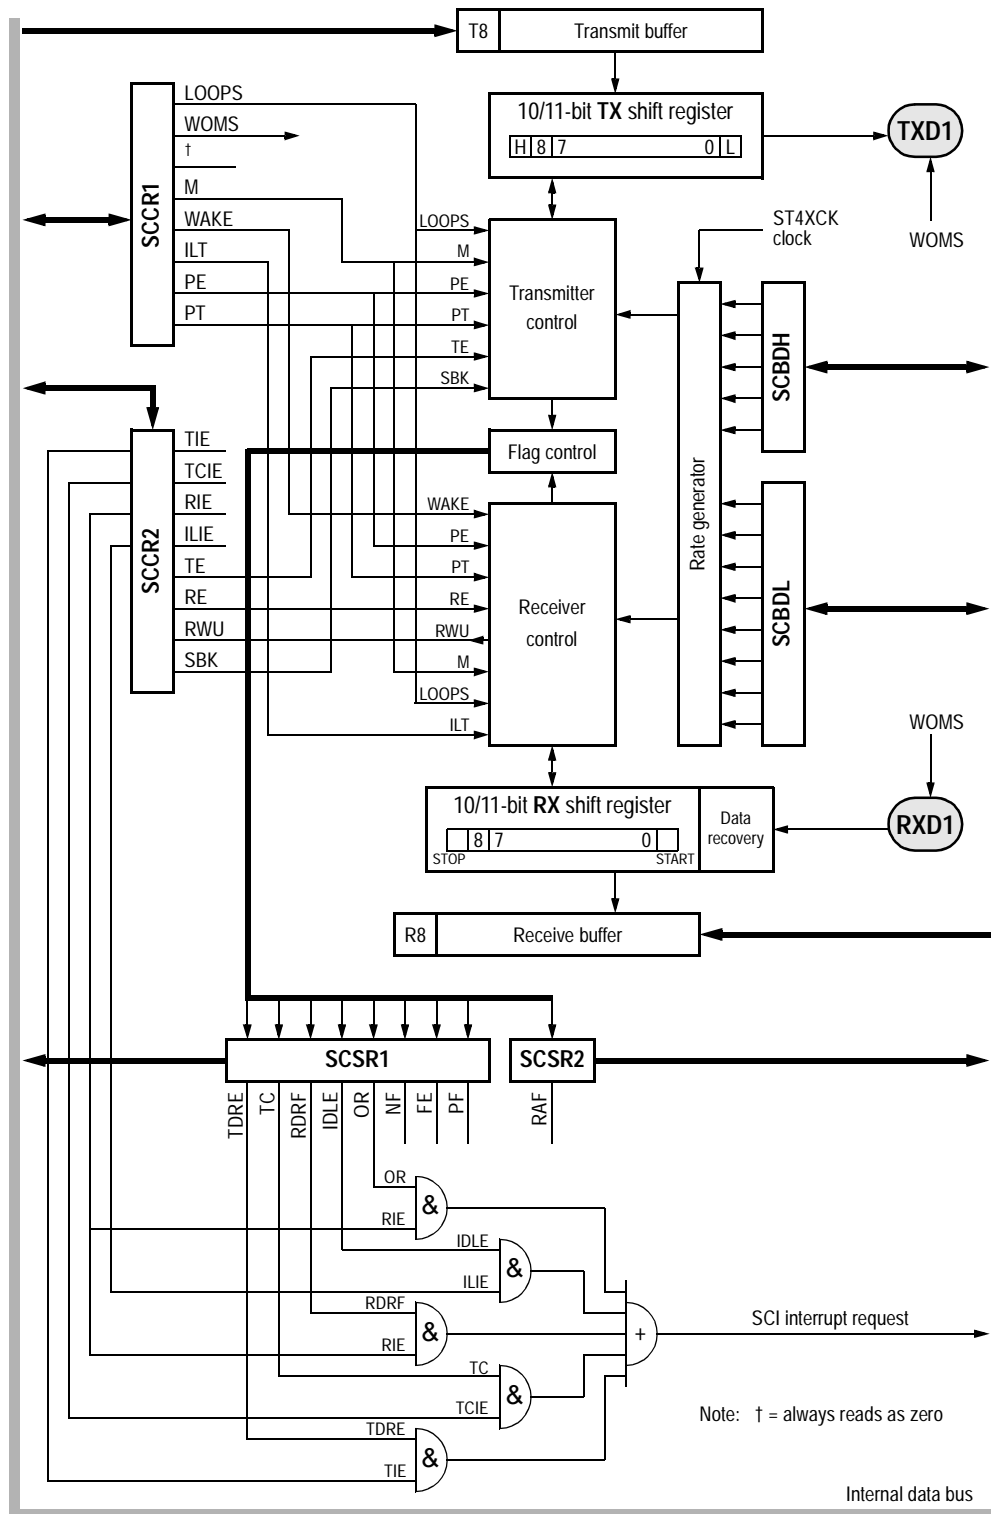

Figure 5-2. SCI1 block diagram
The SCI transmitter includes a parallel data register (SCDRH/SCDRL) and a serial shift register. The contents of the shift register can only be written through the serial data registers. This double buffered operation allows a character to be shifted out serially while another character is waiting in the serial data registers to be transferred into the shift register. The output of the shift register is applied to TXD as long as transmission is in progress or the transmit enable (TE) bit of serial communication control register 2 (SCCR2) is set. The block diagram, Figure 5-2, shows the transmit serial shift register and the buffer logic at the top of the figure.